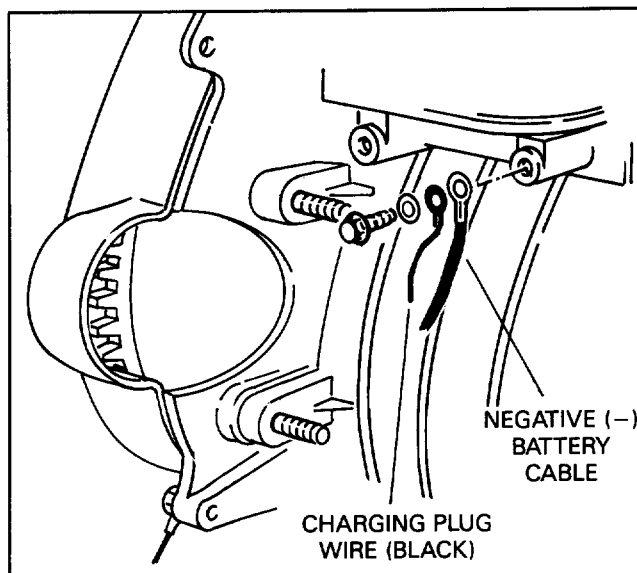

Figure 7
8. Connect black wire of charging plug and negative (-) battery cable (black) to engine with M8 x 12 mm cap screw and spring lockwasher (Fig. 7).